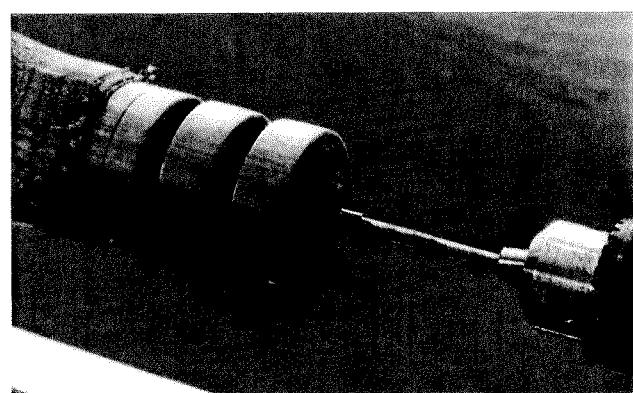

FIGURE 15-10
- 6** On the lathe, drill a $\frac{1}{4}$ "-diameter hole through the length of the project (Fig 15-10). It's a straightforward procedure, as long as you advance and withdraw the drill in a series of small steps. Run the drill in to a depth of about $\frac{1}{4}$ ", then draw it back to clear the waste, then sink the hole another $\frac{1}{4}$ ", then withdraw and clear the waste and so on until the hole is complete.